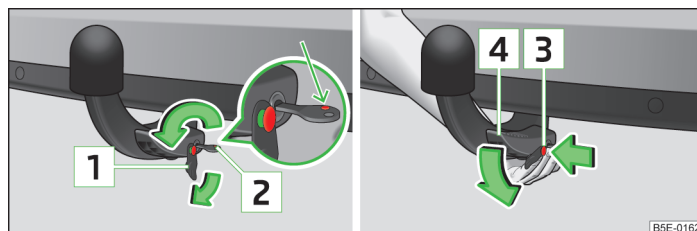

Fig. 156 Unlock the operating lever of the ball rod/removing the ball rod
- Remove the cap **1** » Fig. 156 from the lock on the tow bar in the direction of the arrow.